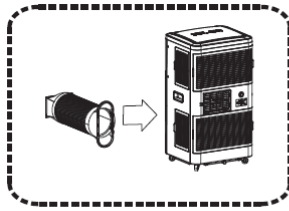

Figure 2
- Slide the square side of the exhaust duct connector into the opening at back of the air conditioner (See Fig. 2 and Fig. 3).